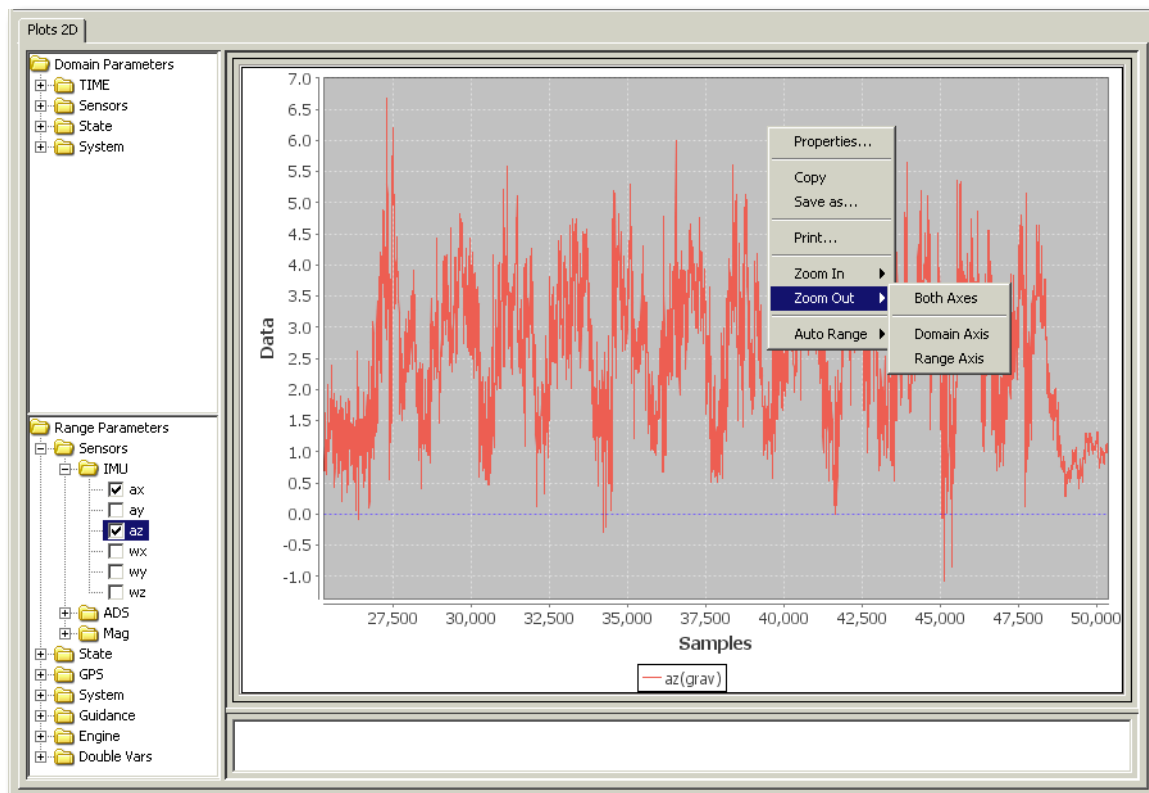

Figure 16
- **Pop-up menu** has options to reset the chart to the start point (**AutoRange**) and to **zoom-in (out)** in the X axis, Y axis or both of them, as shown in figure 16: